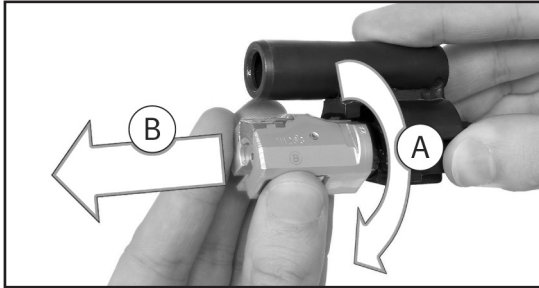

Fig. 39 – Remove the bolt head
2. Turn locking piece clockwise (Fig 39 Ⓐ)
3. Remove locking piece from bolt head carrier by bringing in forward (Fig. 39 Ⓑ)